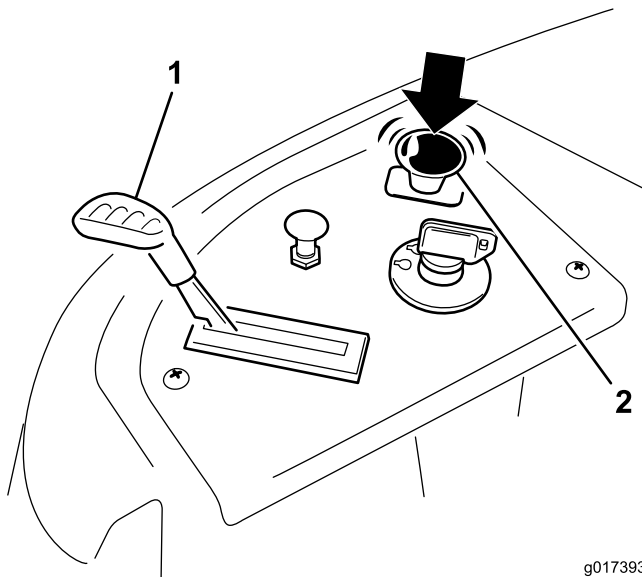

Figure 11
2. Disengage the blades by moving the blade-control switch to Off (Figure 11)